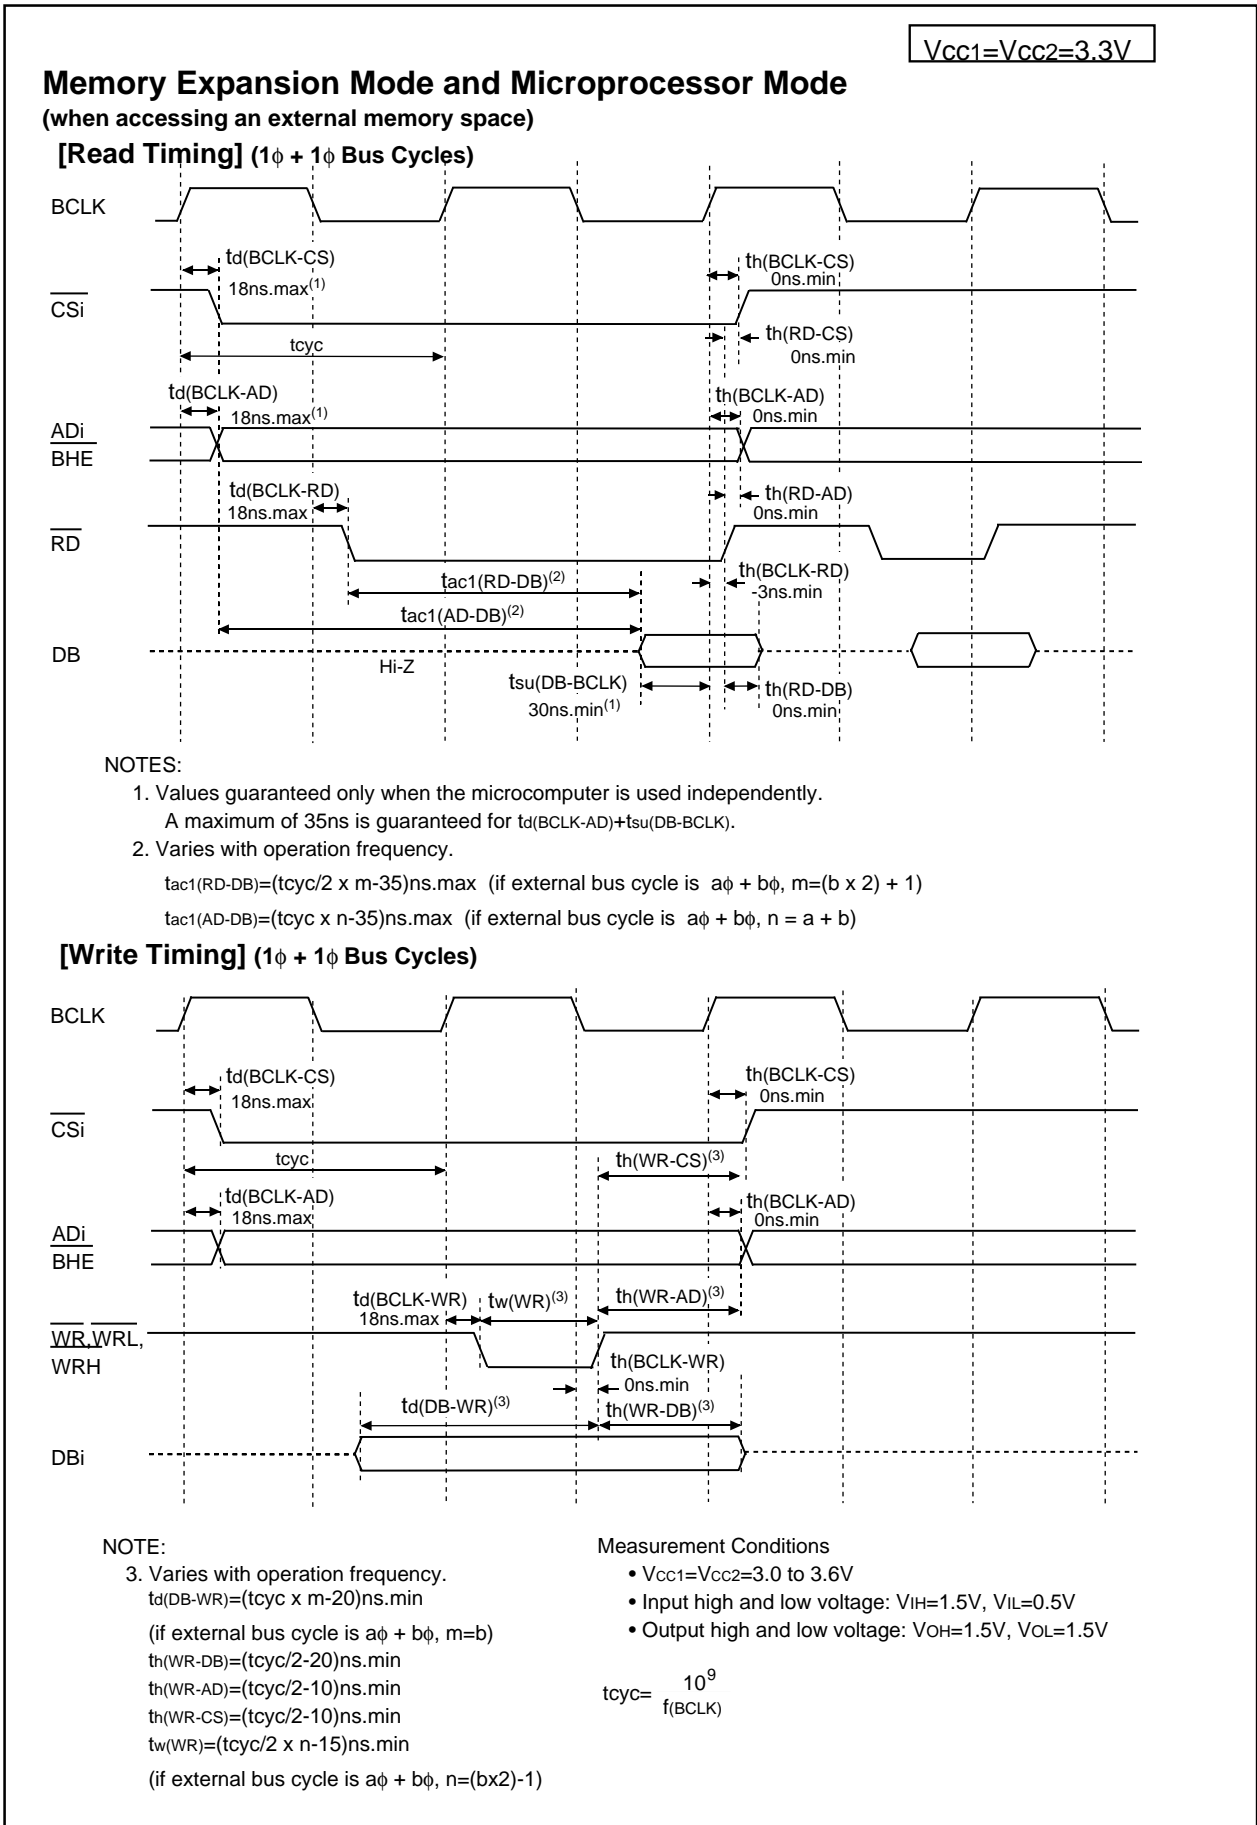

Figure 5.6  $V_{CC1}=V_{CC2}=3.3V$  Timing Diagram (1)
52	<ul style="list-style-type: none"> <li>Figure 5.6 VCC1=VCC2=3.3V Timing Diagram (1) Expression for tcyc added; note 3 corrected</li> </ul>